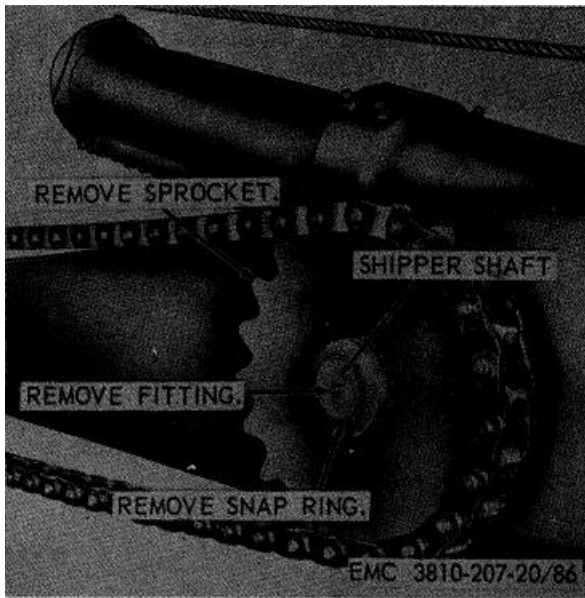

Figure 86. Shipper shaft sprocket, removal and installation.
- (1) Remove the boom crowd chain (TM 5-3810-207-10).
- (2) Remove the shipper shaft sprocket as instructed on figure 86.
- (1) Install the shipper shaft sprocket as illustrated on figure 86.
- (2) Install the boom crowd chain (TM 5-3810-207-10).